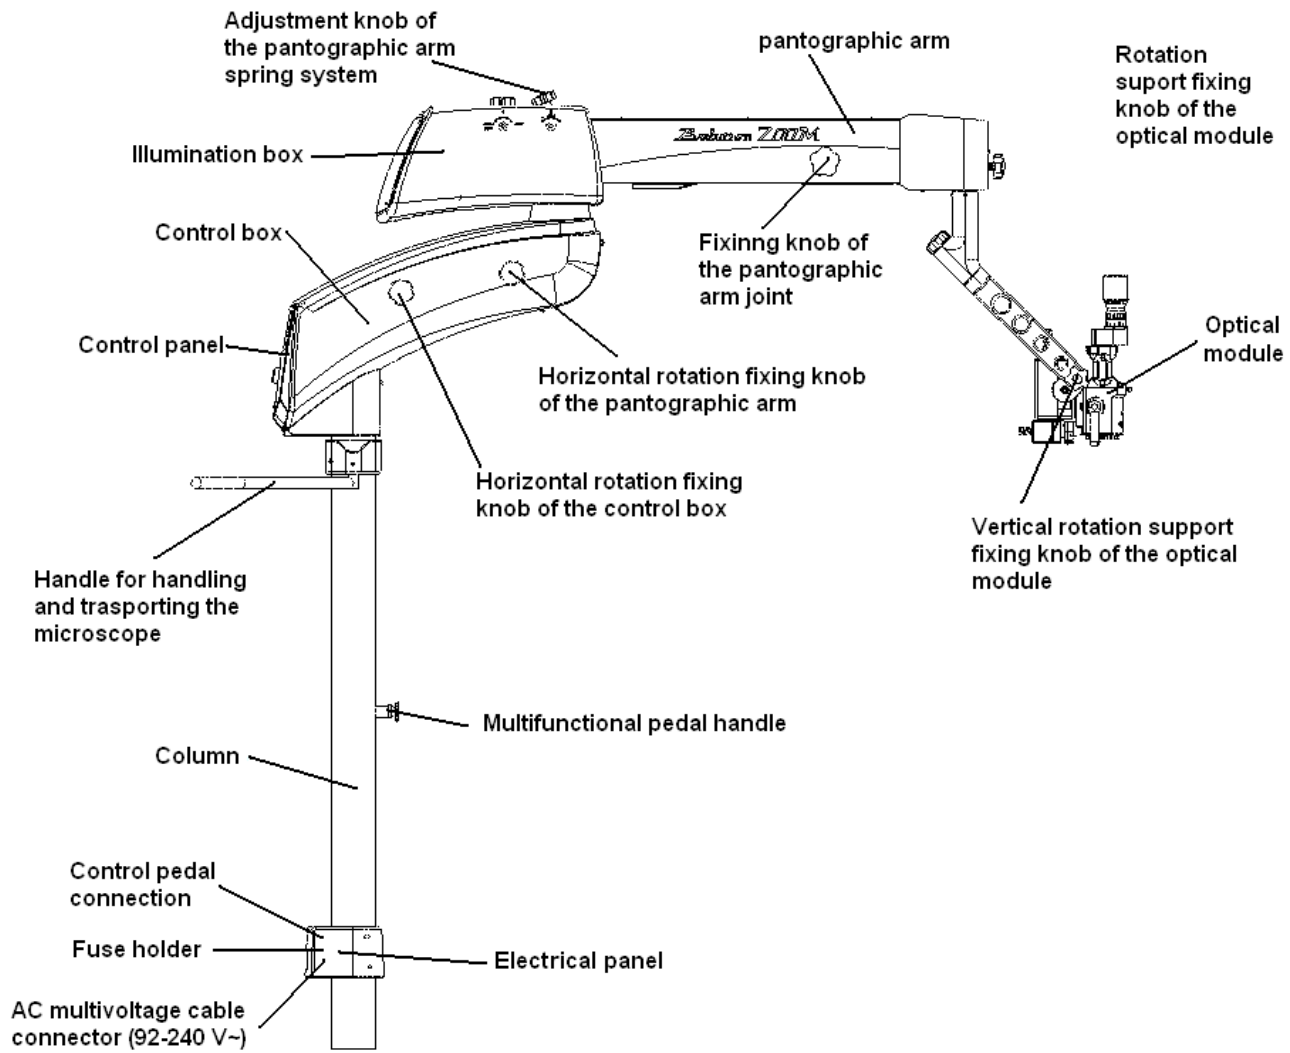
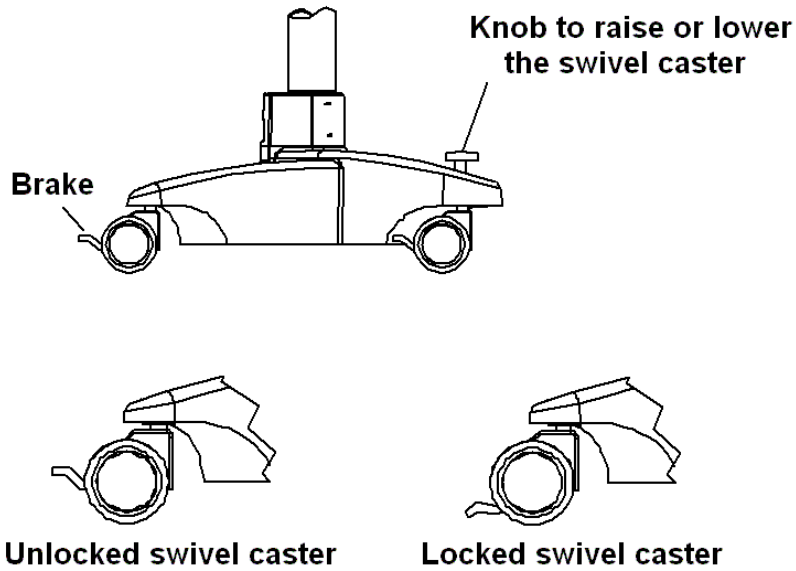
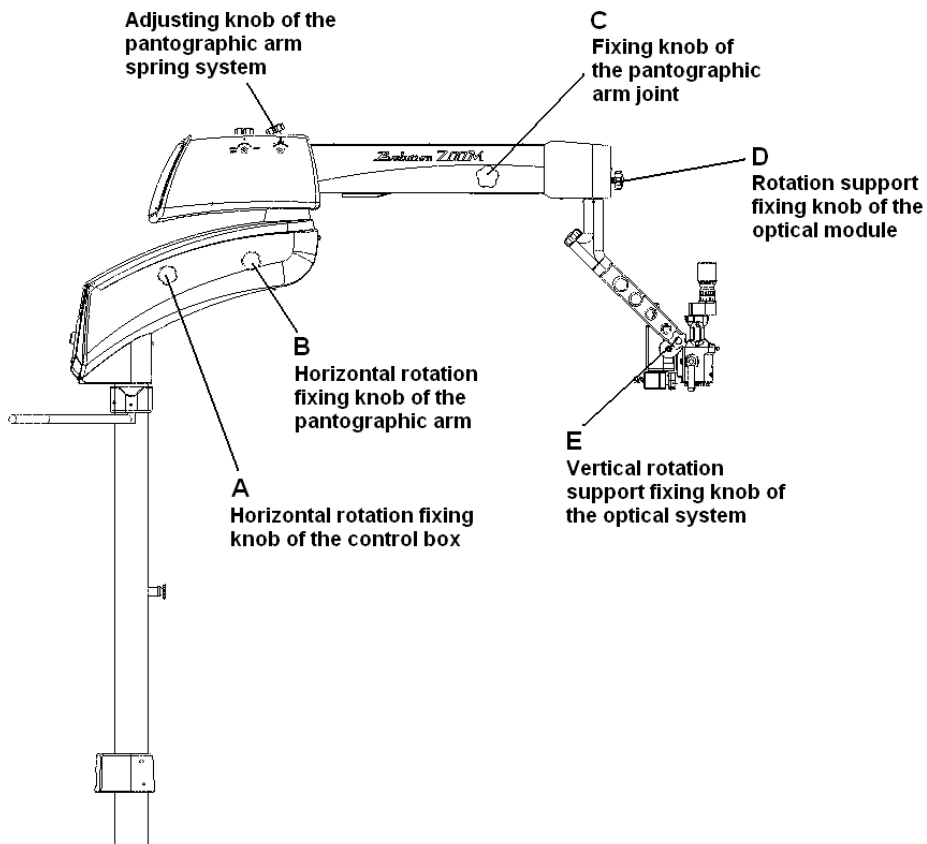

Figure 2: Main elements of the Seiler Evolution Zoom Microscope
Figure 10: Swivel casters with brakes
Figure 11: Knob positions of the microscope
The electrical panel cover is fastened to the column with screws (Figure 2).
Before using the **Seiler Evolution Zoom Microscope**, one can move it from one place to another and change the position of the main modules to meet specific demands, since the followings instructions are considered (Figure 10 and Figure 11):
The level of the base can be set using the Knob to raise or down the swivel casters, so as to place them on a horizontal plane (Figure 10).
To adjusting the optical system to a specific position, make sure the swivel casters are properly locked (Figure 10). Then, loosen the knobs indicated and place the optics in the required position (Figure 11). After that, re-tighten the Knobs (do NOT over-tighten them).
To rotate the optical module vertically, release knob E. This may be slightly difficult, since the system is assembled with a preload to prevent the optical module from falling/rotating involuntarily (Figure 2 and Figure 11).
ATTENTION: A spring inside the pantographic arm ensures its smooth and precise movement. The spring's tension is NOT pre-set in the factory, because it must be released for transportation. When assembling the microscope, this spring must be set by its adjustment knob (Figure 11). Where accessories are added to the optical module, the weight to be balanced by the pantographic arm is increased, so the knob must be turned anti-clockwise. Become aware of eventual downward movement of the optical system, especially when adding accessories.
- Loosen the knob of the pantographic arm joint (Figure 11), then put the optical module in a distance from the working that are approximately the focal length of the objective lens in use. Re-tighten the knob to fix the pantographic arm.